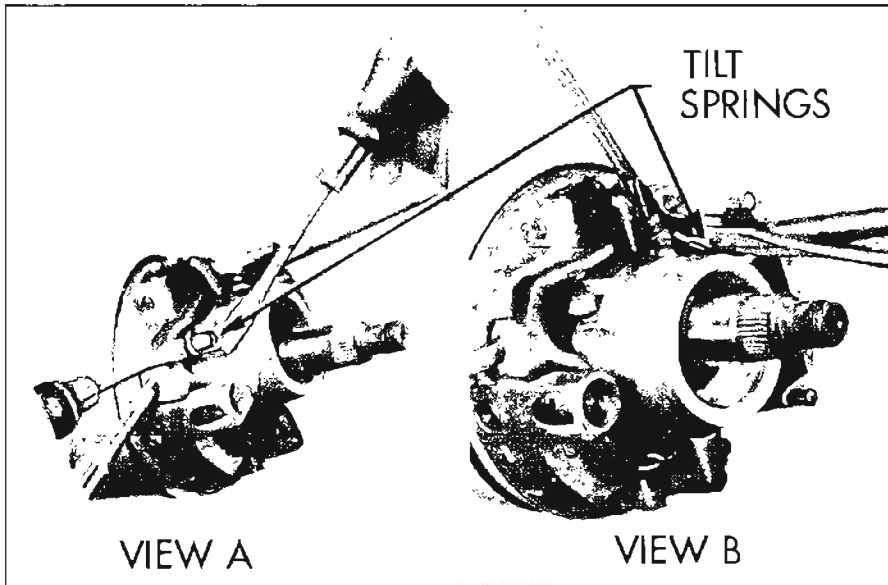

Figure 8-80—Removing Tilt Springs
11. Unhook upper ends of tilt springs by inserting a screwdriver in top coil of spring and prying upward, then disengage top loop of spring with another screwdriver. See Figure 8-80. View A shows removing spring on left side and View B shows removing spring on right side.